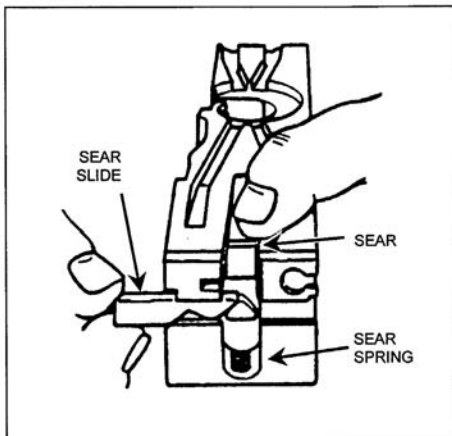

Figure 071-022-0001-14. Removal of the sear slide, sear, and sear spring
- (h) Tip the front end of the bolt upward and remove the firing pin extension assembly (figure 071-022-0001-15).